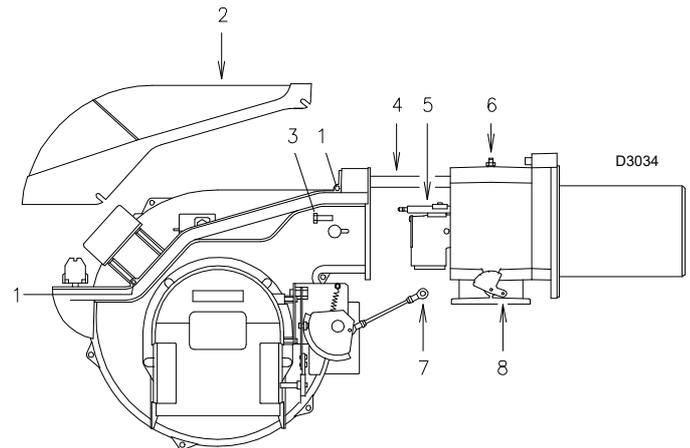

Fig. 34
Now it is possible to extract the gas distributor 5) after having removed the screw 6)(Fig. 34).
- replace the screws 3)(Fig. 34). and carefully pull the probe and electrode cables outwards until they are slightly taut;